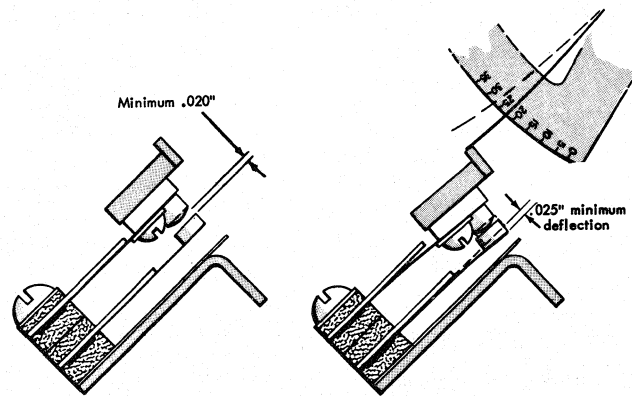

Figure 22. Pressure Rail Card Lever Contact
2. Hold assembly at the same angle it has in the machine (45°) and form operating strap for a contact air gap of .020 inch minimum (Figure 22).